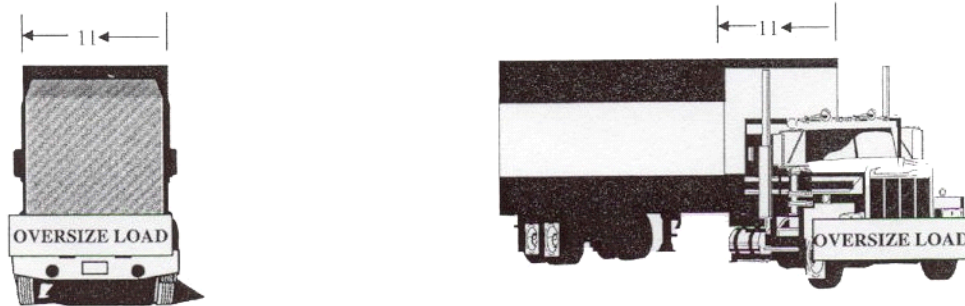

Figure 4.5: Warning Signs on Oversize Loads
- 4.6.5.2 Vehicles and loads exceeding legal width shall display two signs with the wording "OVERSIZE LOAD". One sign shall be on the front of the vehicle. The other shall be on the rear of the load; however, if the sign cannot be attached to, or is not legible on the load, then the sign shall be attached to the rear of the vehicle itself. Refer to Figure 4.5.